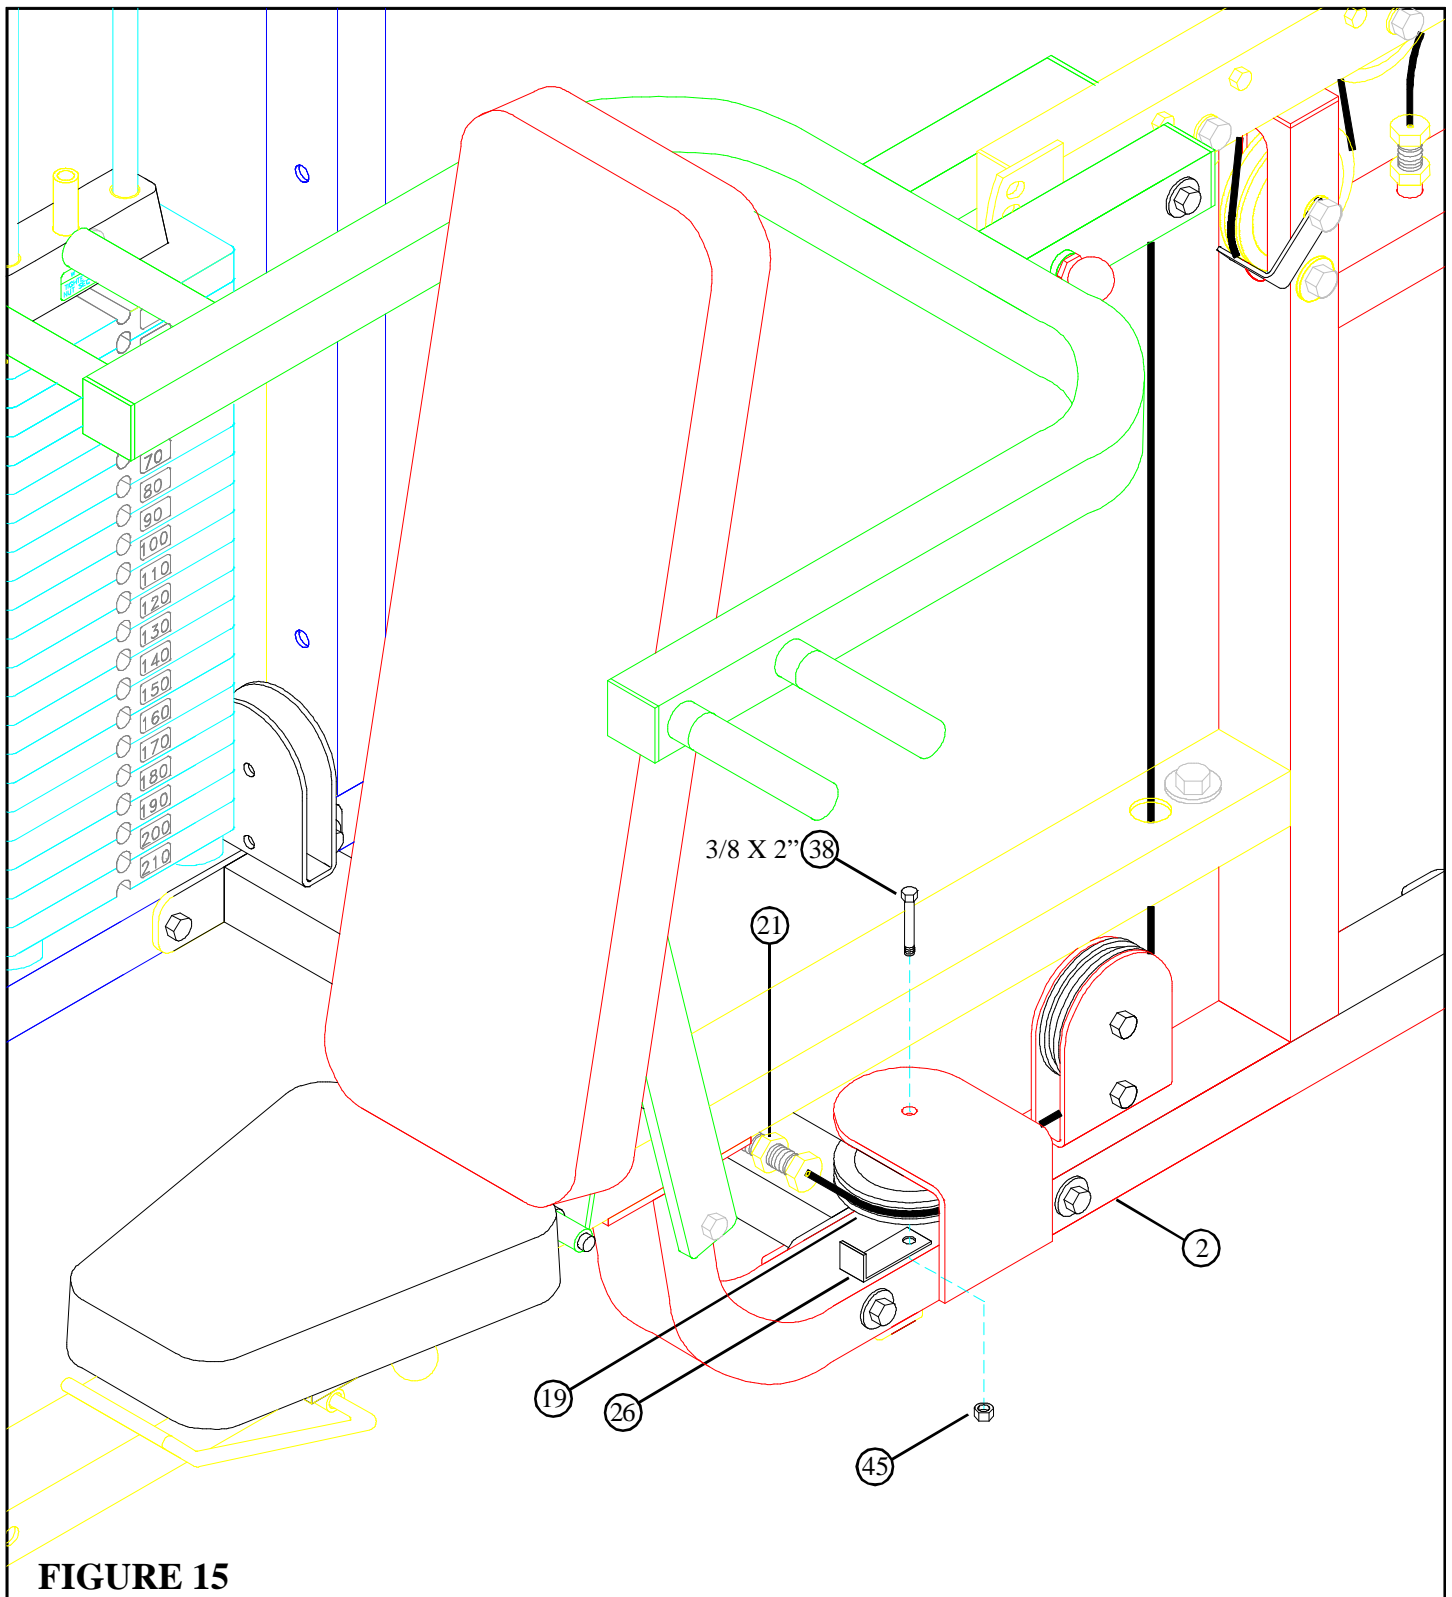

FIGURE 15
- Wrap the CABLE (21) around one 4-1/2" PULLEY (19) and **SECURELY** assemble the 4-1/2" PULLEY (19) to the horizontal pulley bracket on the PRESS FRAME (2) using one 3/8 X 2" BOLT (38), one 2-7/8" CABLE CLIP (26), and one 3/8" LOCK NUT (45) as shown in FIGURE 15. (NOTE: Before tightening, make sure CABLE CLIP (26) is positioned as shown in FIGURE 15.)